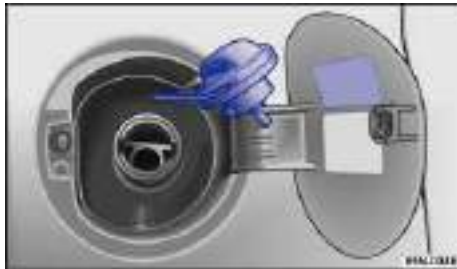

Fig. 158 Fuel cap placed on the open fuel filler flap.
- Unscrew fuel cap counterclockwise and remove. Use the receptacle on the filler flap hinge to hold the cap while refueling ⇒ fig. 158.
⇒ fig. 158.